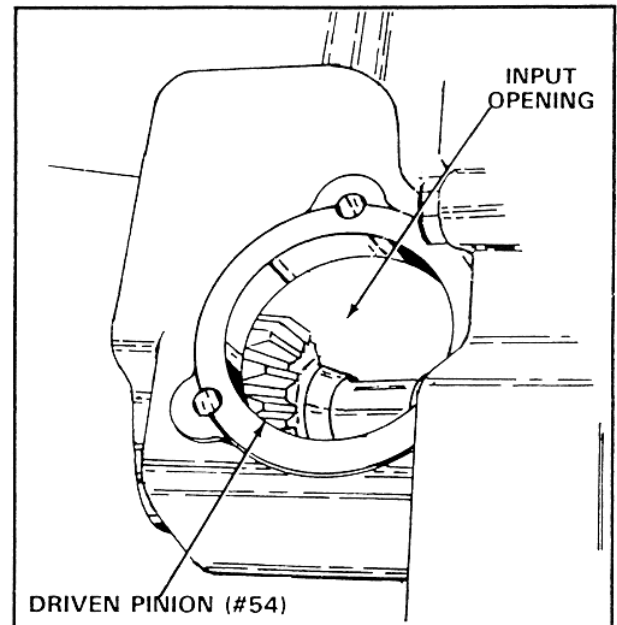
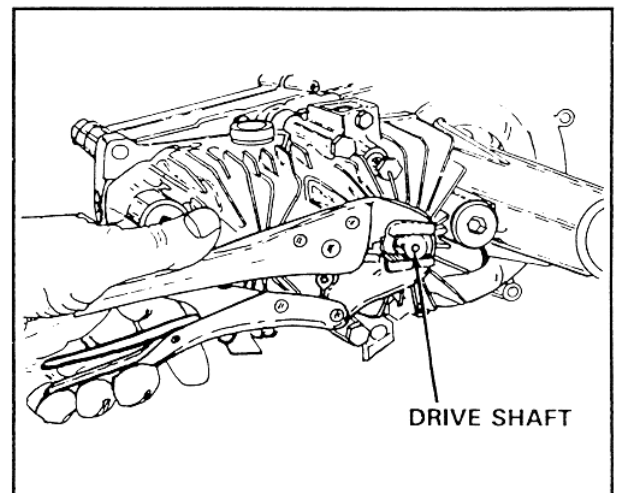

FIGURE 3
FIGURE 4
- 3.12 To check driven pinion (#54) for damage, look into input opening on transaxle. See figure 3. Rotate drive shaft on hydro, see Figure 4, to view teeth of driven pinion. To replace pinion (#54), see section 5.30 DAMAGED DRIVEN PINION.